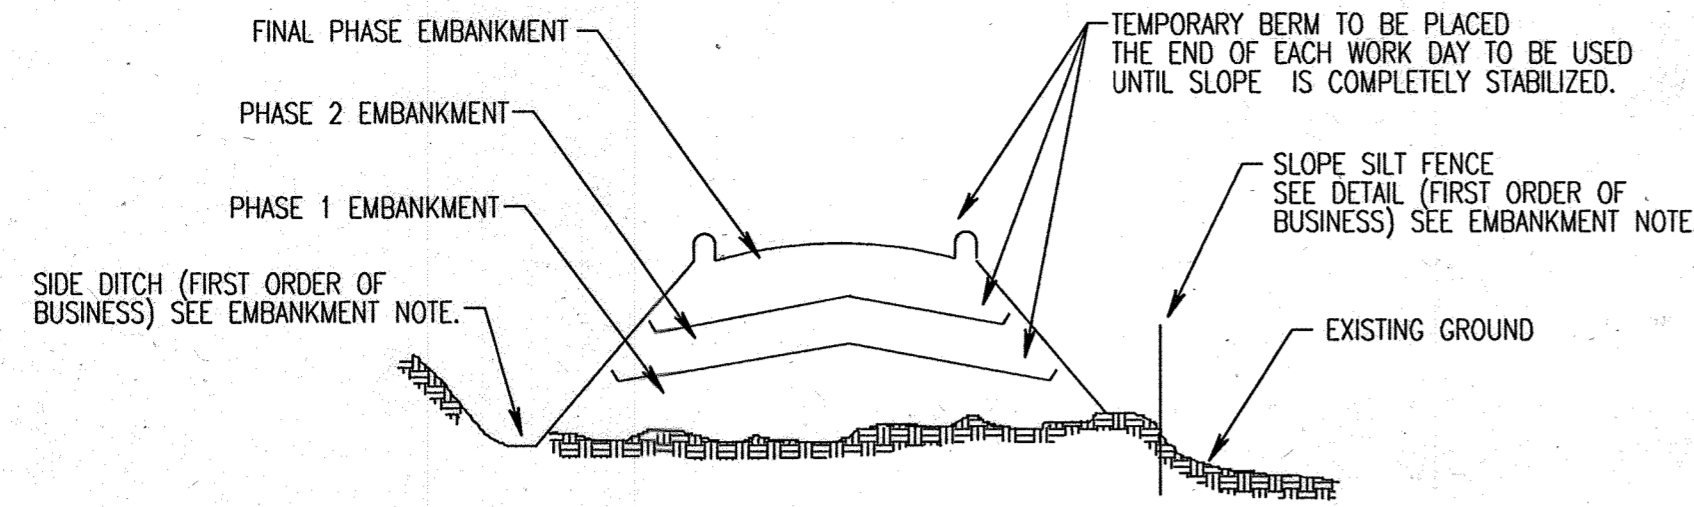

Figure 5. Incremental Stabilization - Fill
- Construction sequence: Refer to Figure 5 (below).
- Excavate and stabilize all temporary swales, side ditches, or berms that will be used to divert runoff around the fill. Construct Slope Silt Fence on low side of fill as shown in Figure 5, unless other methods shown on the plans address this area.
- i. Select one or more of the species or mixtures listed in Table 26 for the appropriate Plant Hardiness Zone (from Figure 5) and enter them in the Temporary Seeding Summary below, along with application rates, seeding dates and seeding depths. If this Summary is not put on the plans and completed, then Table 26 must be put on the plans.
- i. Select one or more of the species or mixtures listed in Table 25 for the appropriate Plant Hardiness Zone (from Figure 5) and enter them in the Permanent Seeding Summary below, along with application rates and seeding dates. Seeding depths can be estimated using Table 26. If this summary is not put on the construction plans and completed, then Table 25 must be put on the plans. Additional planting specifications for exceptional sites such as shorelines, streambanks, or dunes or for special purposes such as wildlife or aesthetic treatment may be found in USDA-SCS Technical Field Office Guide, Section 342 - Critical Area Planting. For special low maintenance areas, see Section IV Sod and V Turfgrass.